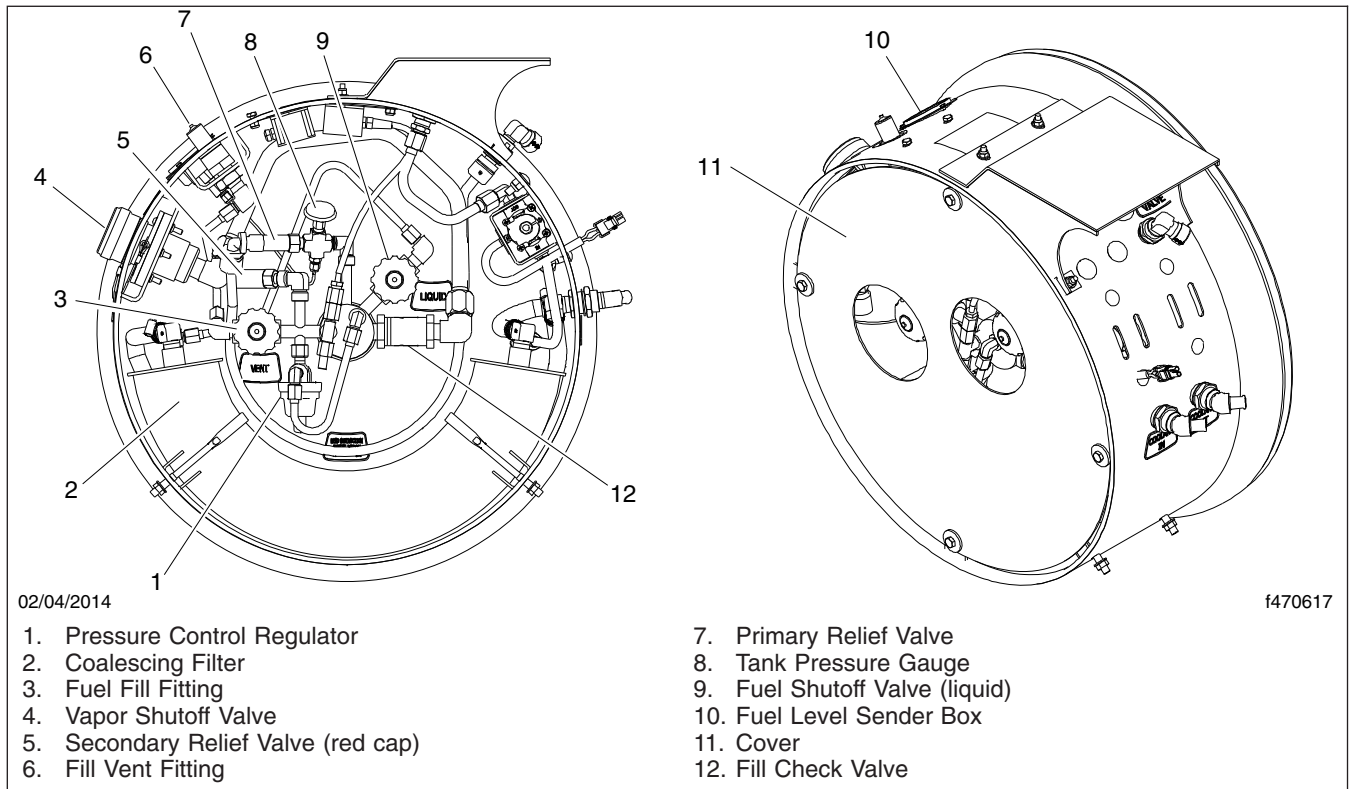
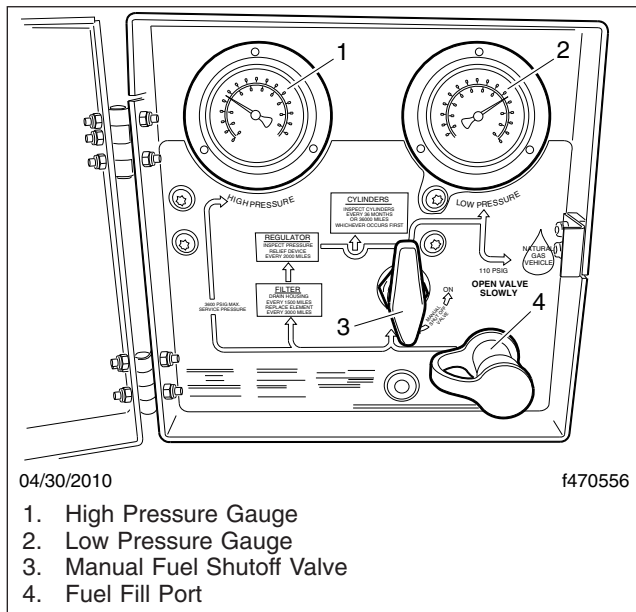

Fig. 21.9, LNG Tank Plumbing Components
Fig. 21.10, CNG Fuel Panel
LNG Fuel System: A red cap should be present on the secondary relief valve. See Fig. 21.9.
4. Inspect all plumbing components, including the fuel shutoff valve(s), primary and secondary relief valves, and the LNG vapor shutoff and excess flow valves, if equipped, for signs of damage or leaks. See Fig. 21.9 or Fig. 21.10.
8. Inspect the LNG vaporizer for signs of damage or leaks. See Fig. 21.9. Inspect the vaporizer mounting brackets for signs of looseness.